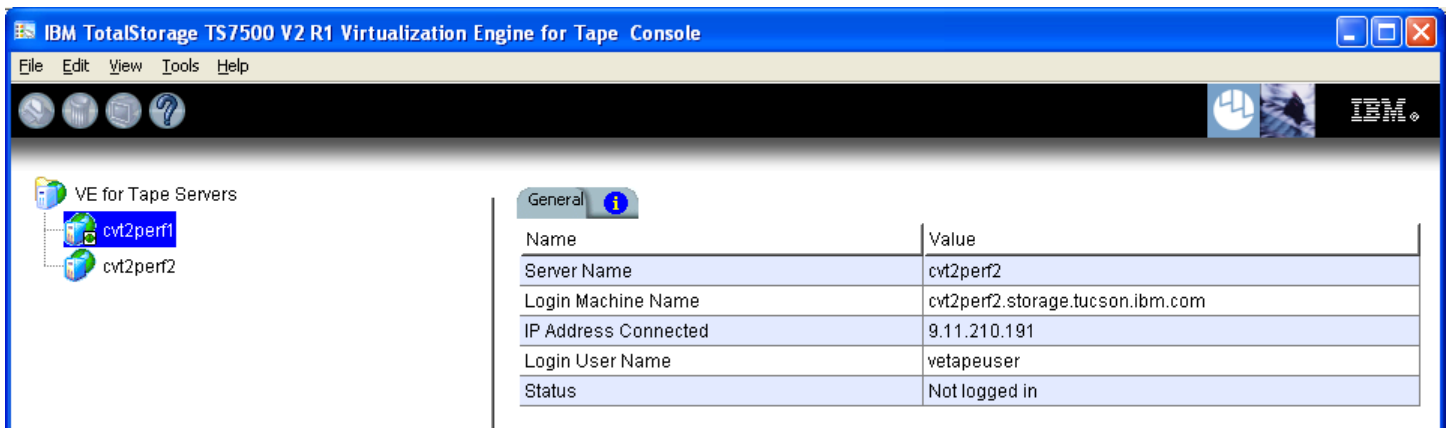

Figure-11
8. The **VE for Tape Console** application will be disconnected from the VE for Tape server (Figure-11).